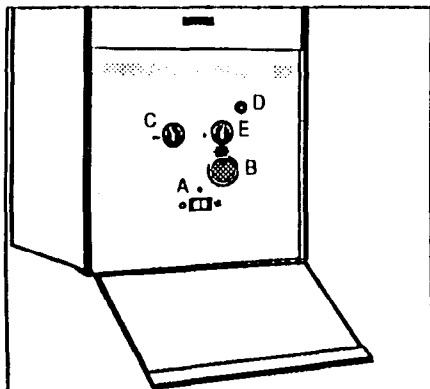
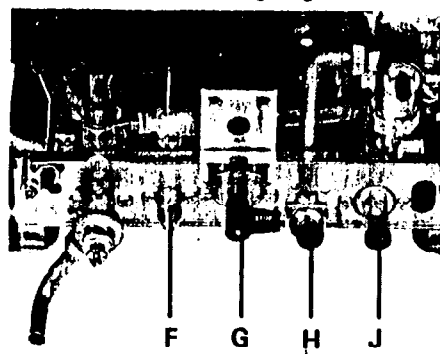

Fig. 1
Fig. 2
- 2) Turn the lever on the gas service tap to the left (G) (Fig. 2).
- 3) Set the selector switch (A) (Fig. 1) to the required position. To the left for hot water only or to the right for hot water + central heating.
- 4) Press the igniter button (D) (Fig. 1) Fully in.
- 5) If set to hot water + central heating check that the valve (J) (Fig. 2) is fully open (turn anti-clockwise).
This boiler is designed to give hot water at different temperatures and is fitted with a temperature regulator (F) (Fig. 2). This regulator is adjusted and set at the time of installation by the installer.
Set the selector switch to the centre position off (O) Turn off the gas by turning the lever (G) (Fig. 2) on the gas service tap to the right. Turn off the electricity supply.
Set the selector switch (A) (Fig. 1) to hot water only position, turn off the valve (H) (Fig. 2) under the appliance and leave electricity supply on.
- Set the boiler thermostat (B) (Fig. 1) as required depending on the desired room temperature. To increase the heat turn to "+", to reduce the heat turn to "-". The temperature gauge indicates the temperature of the water going to the radiators.
- Switch to "hot water only" and close the valve (J) (Fig. 2) on the heating flow.
PRESSURE GAUGE (C) (Fig. 1)